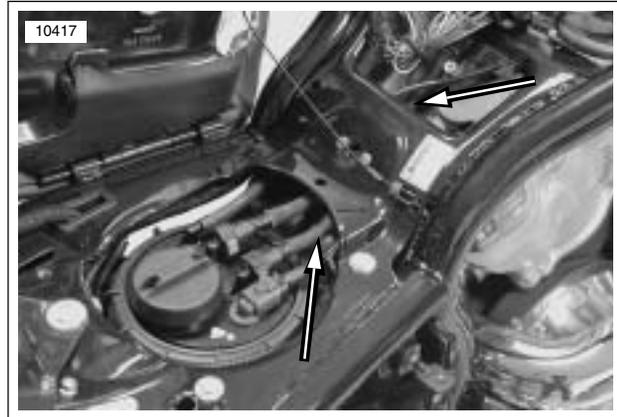

Figure 1-54. Fuel Line Inspection Points
3. See Figure 1-54. Check fuel system lines for chafing against frame components.